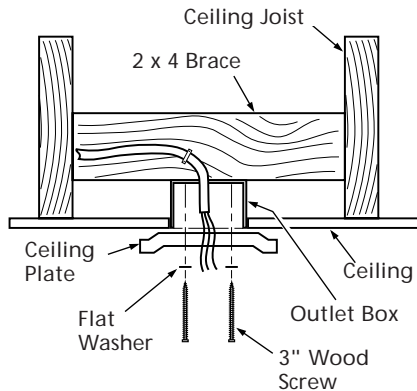

Figure 2c - Attaching Ceiling Plate to 2 x 4 Brace
5. Place a flat washer on each of the two 3" screws and pass the screws through the slotted holes in the ceiling plate as shown in Figure 2c.